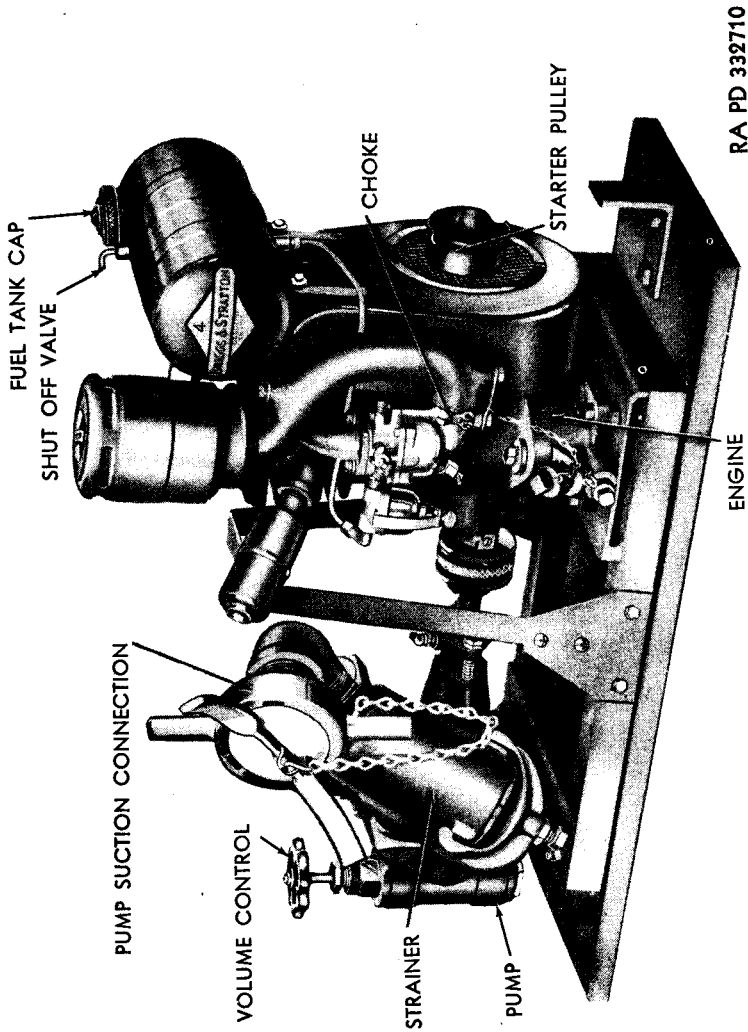

Figure 14—Pumping System
(fig. 14).**
through a flexible coupling. The unit is mounted on a frame equipped with carrying handle (fig. 14).
c. Starting Engine and Pump Under Normal Conditions (fig. 14).
(1) When starting a cold engine and pump against a closed nozzle, screw manual flow control on pump all the way down to relieve load on the engine. As soon as the engine is operating normally, adjust control to operating position.
(2) Open shut-off valve on fuel tank by twisting to left, or in a counterclockwise direction, as far as it will go. Open vent in fuel cap.
(3) Completely close carburetor choke by moving choke lever in a clockwise direction.
(4) Wind the starter rope around the starter pulley with the knot in the pulley notch. Pull the rope with a quick steady pull to spin the magneto flywheel with choke fully closed to prime the engine. Then open choke about one-eighth, and repeat operation.
(5) After the engine warms up, gradually open choke valve in a counterclockwise direction until engine runs smoothly with the choke wide open. Operate the choke the same as you would operate the choke of an automobile.